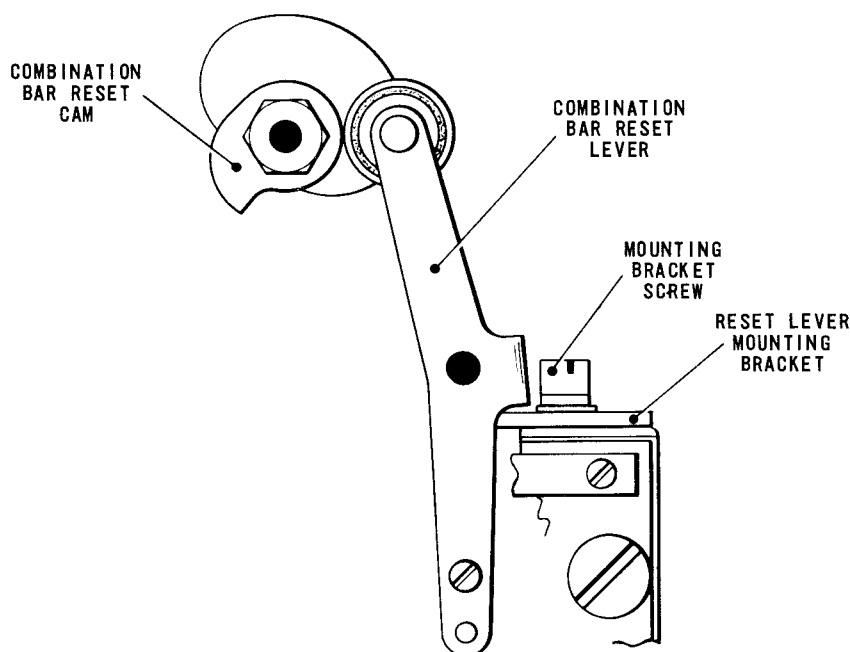
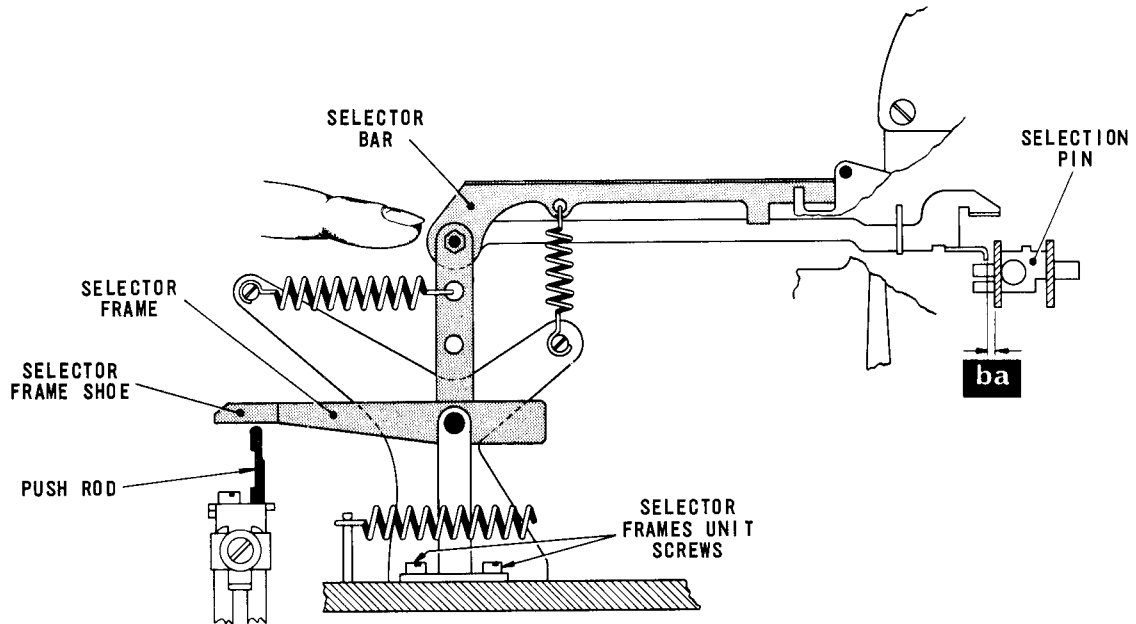

Fig. 4.57 COMBINATION BAR RESET MECHANISM
Fig. 4.59 SELECTOR BAR/SELECTION PIN CLEARANCE
- 69.3 Continue to turn the machine until the combination bar reset lever, Fig.4.57, is on the highest point of the reset cam. Depress each key in turn and check that with the key held down it is possible to move the roller on the reset lever away from its cam by a minimum of .005 in.
- 69.4 Return the machine to the rest position and depress the letter 'Z' (MSSSM) key. Pull the reset lever away from its cam and check, by observation of the pushrods, Fig.4.59, that Nos.1 and 5 combination bars start to reset simultaneously. This is to ensure that the reset lever mounting bracket, Fig.4.57, is positioned squarely with respect to the ends of the combination bars.
72.1 Depress the Letters (MMMM) key and, by applying finger pressure to each of the five selector bars in turn as shown in Fig.4.59, check that there is an